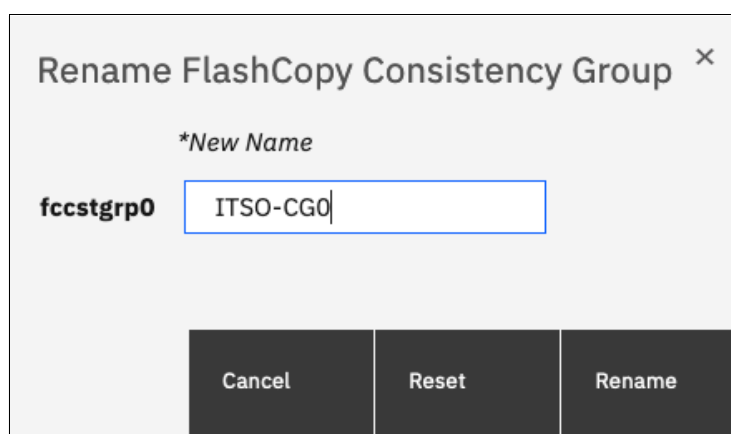

Figure 10-54 Renaming the selected consistency group
3. Enter the new name that you want to assign to the consistency group and click **Rename**, as shown in Figure 10-54.